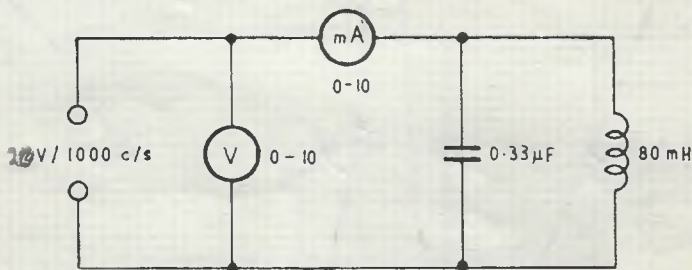

FIG. 1.
STEP 1. Connect the circuit as shown in Fig. 1. Adjust frequency for minimum current (1,000c/s approx.).